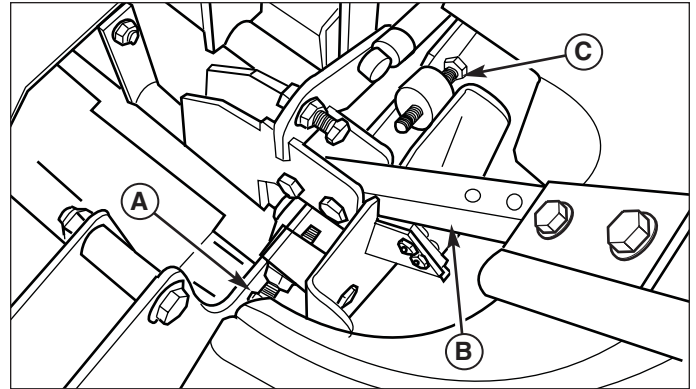

Figure 12. Top Speed Adjustment
If the rider veers to the right or left when both the ground speed control levers are in the maximum forward or reverse position, the top speed of each of these levers can be balanced by turning the adjustment bolt(s) (A & C, Figure 12). Only adjust the speed of the wheel that is traveling faster.
2. Turn the top speed adjustment bolt (A & C, Figure 12) COUNTER-CLOCKWISE to reduce the speed.